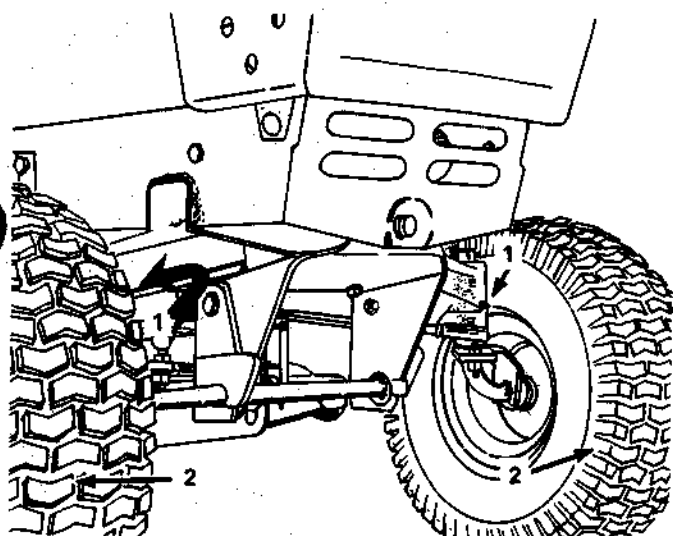

Figure 17
Following is a list of the grease fittings with reference numbers that identify each location on the corresponding pictures. Figures 17 & 18. Each fitting should be wiped clean before and after lubrication. Grease each fitting every 50 hours of operation with Ariens Moly Lithium grease.
1. Figure 17 — Right and left king pin.
2. Figure 17 — Right and left front wheel.